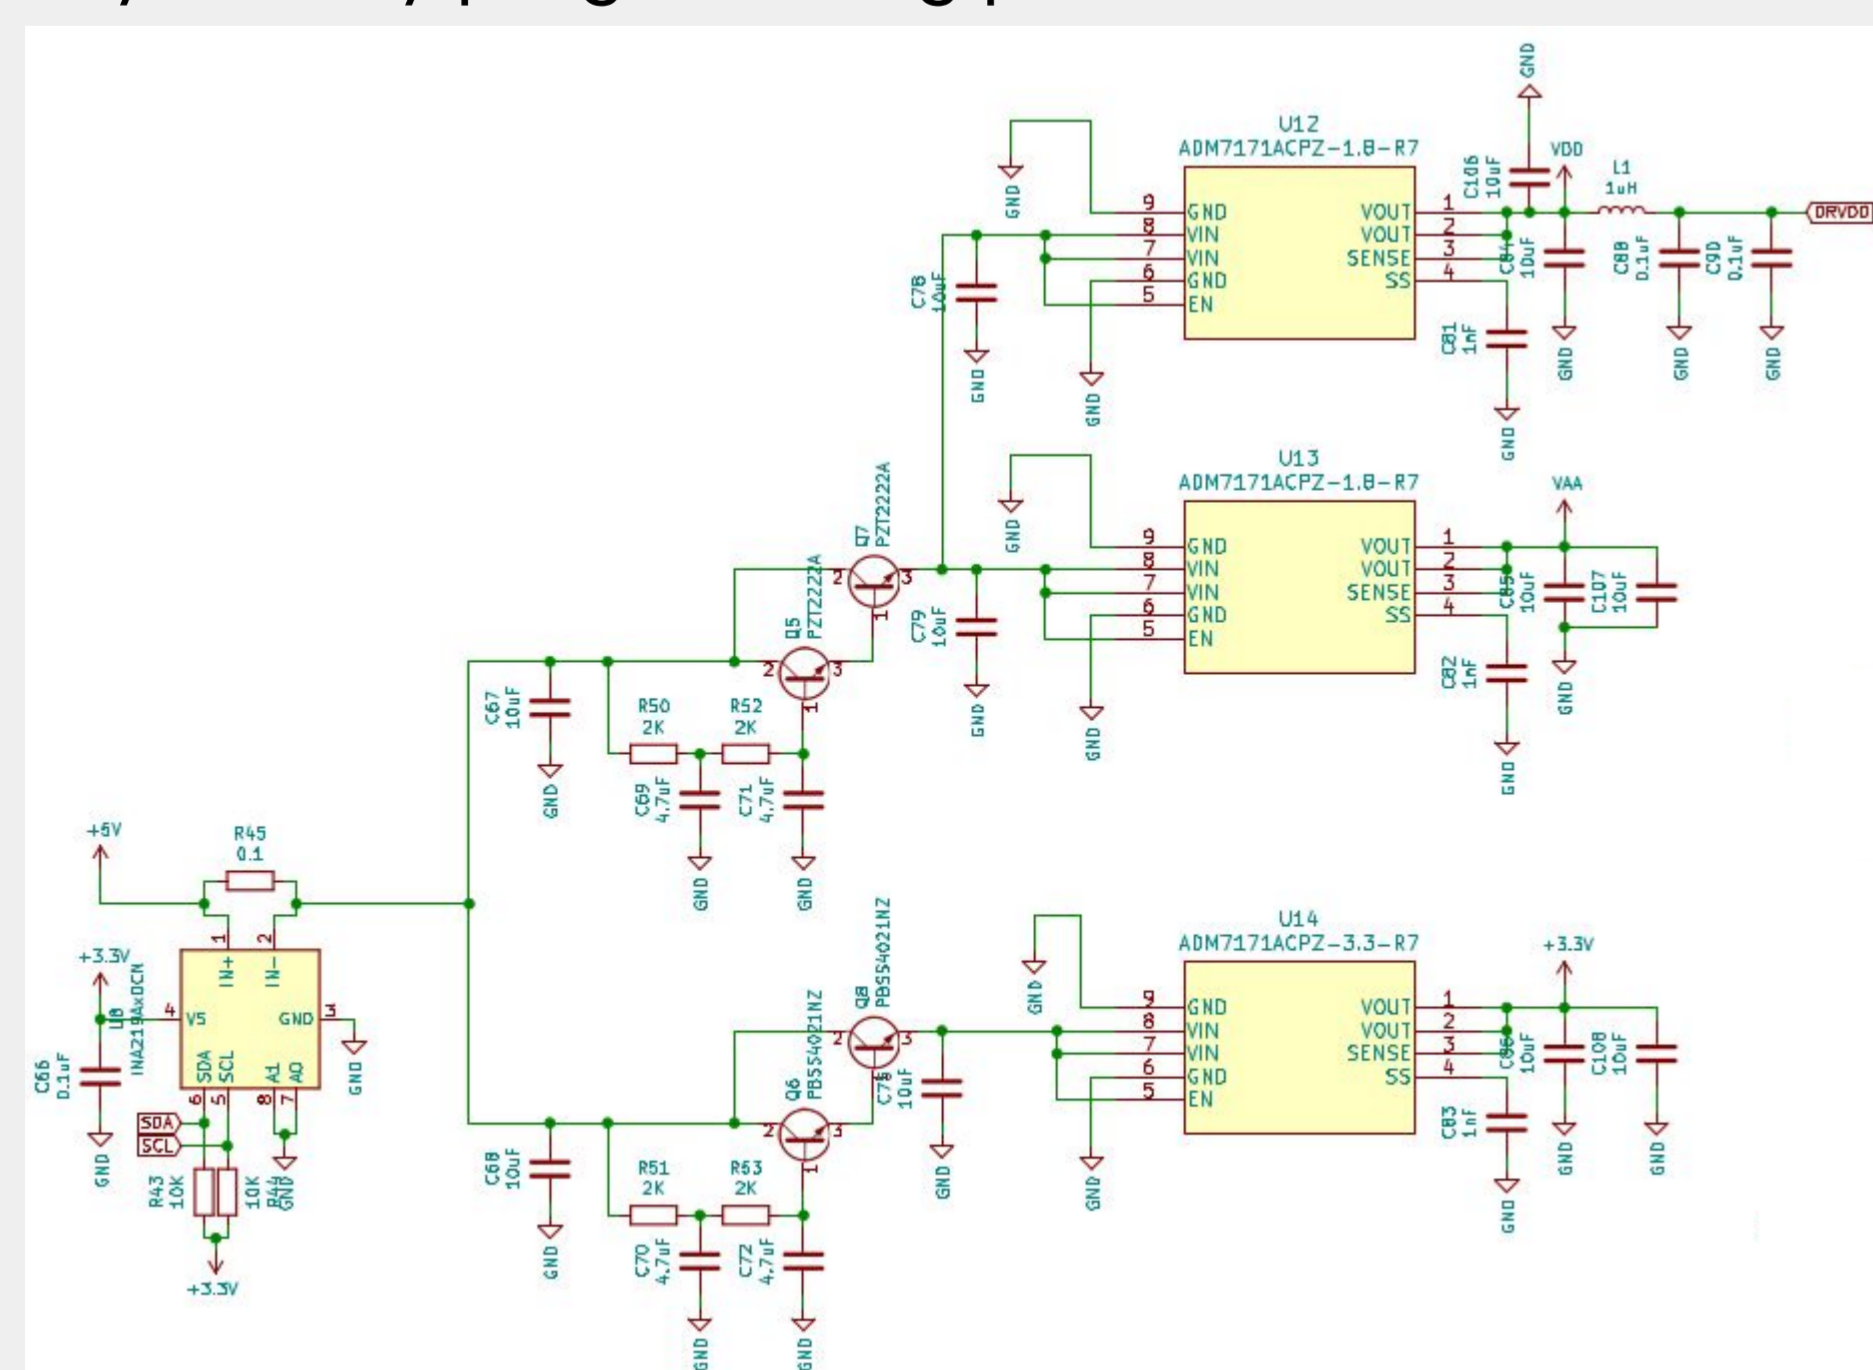

Figure 3. Voltage regulators and active filters
- Power supply: To reduce any source of interference for the analog section we have selected very low noise voltage regulators with active filters to reduce any power supply noise. We can see the circuit in Figure 3.